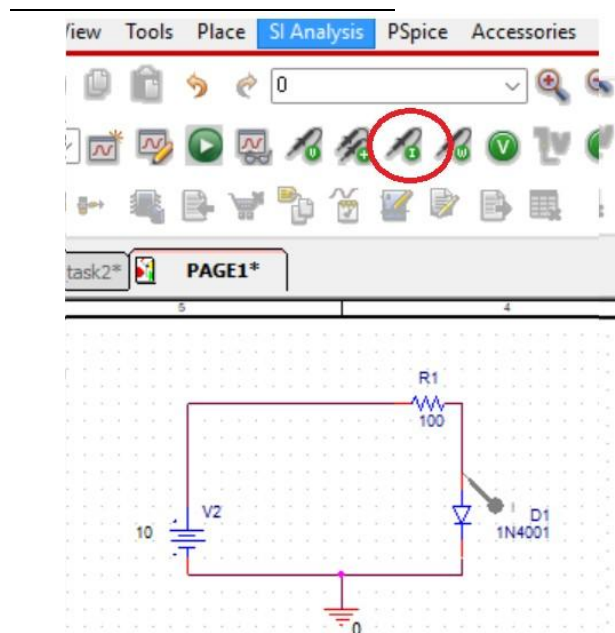

Figure 1.8a: Current Marker on the diode D1
9. Select a current marker from PSpice tool-bar and place it on the leg of an element (example first leg of Diode D1) where you want to monitor the amount of current flow. The complete schematic with marker placed on the diode is shown in Figure 1.8a.